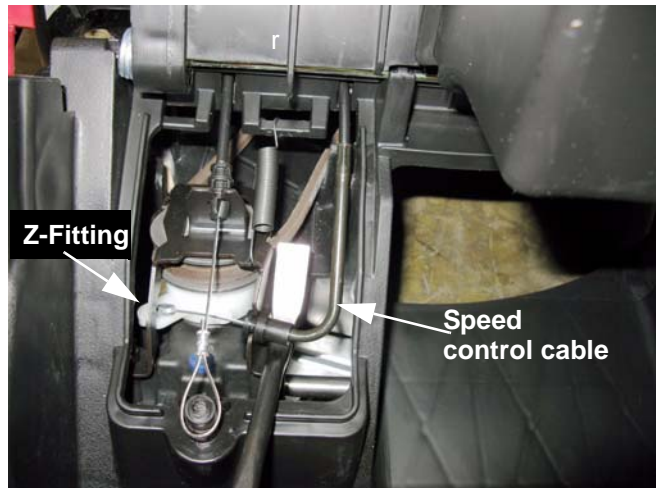

Figure 3.26
4. Carefully pry the L-shaped speed control cable housing out of the belt keeper / bracket at the back of the transmission. See Figure 3.26.